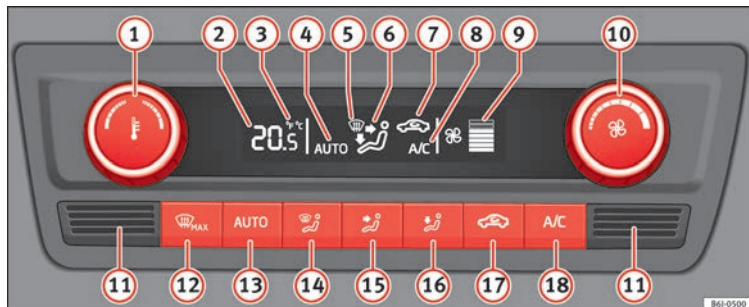

Fig. 171 Climatronic: controls.
- (18) » Fig. 171 switched on.
The corresponding function will be switched on when a button is pressed, turning on the air conditioning if it was switched off, with the exception of button (17) » Fig. 171 (recirculation).
- Turn control (10) to the left until the segments of column (9) » Fig. 171 switch off.
- Press the **AUTO** button **(13)** » **Fig. 171**.
Keep the **AUTO** and **A/C** » **Fig. 171** buttons held down for **2 seconds** at the same time. The data is displayed on the screen in the units required.
- The interior temperature sensor **(11)** » **Fig. 171** is at the bottom. Do not cover it with stickers or the like, as this could have a negative effect on Climatronic operations.
- Press the **AUTO** button **(13)** » **Fig. 171** and **AUTO** displayed on the screen.
- When you switch on the ignition, control **(1)** » **Fig. 171** can be used to set the required interior temperature.
- Press button **(17)** » **Fig. 171** and the  symbol is displayed on the screen.
- Press button **(17)** » **Fig. 171** and the  symbol disappears from the screen.
- Turn control (10) » Fig. 171 counter-clockwise (to lower the speed) or clockwise (to increase the speed).
- Press the button  (12) » Fig. 171.
- Press button  (12) » Fig. 171 several times or press the  button.